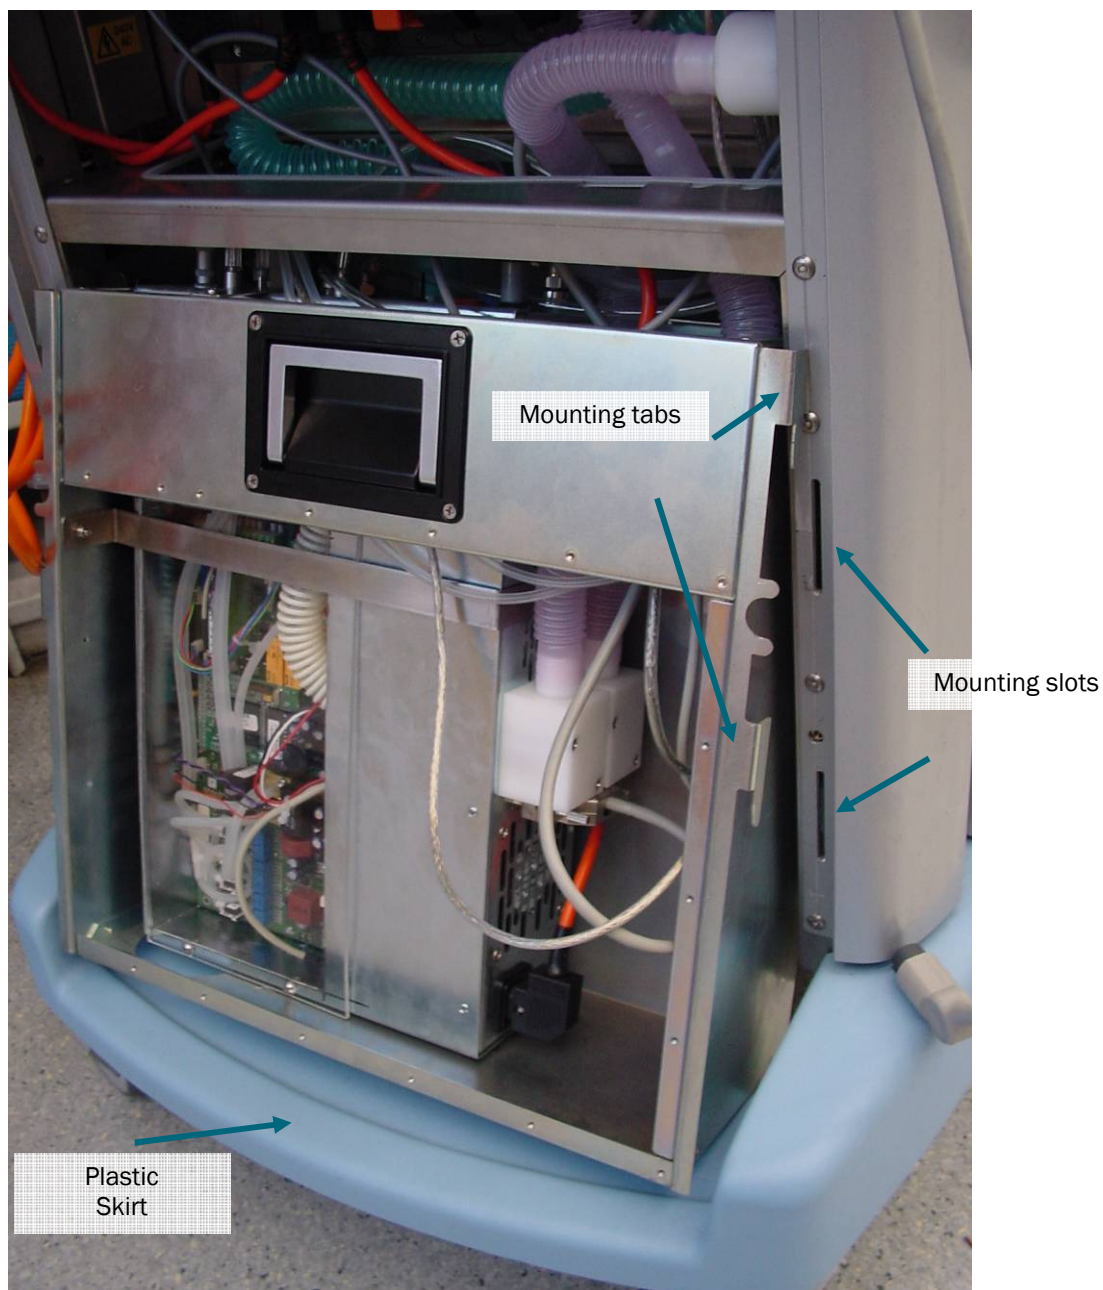

Figure 11: Ventilator housing in service access position
8. Rest the ventilator housing on the plastic skirt at the rear of the workstation as shown in Figure 11